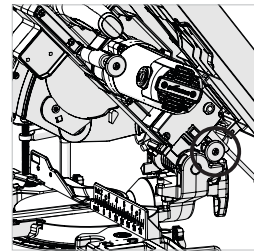

Fig. 17
- Lower the cutting head to the fully down position. Push the cutting head latching pin into its socket. **(Fig. 17)**